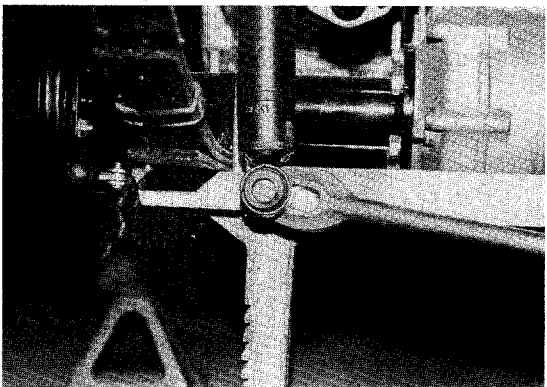

Figure 11-9
4. Remove shock absorbers from lower mounts (Figure 11-9).